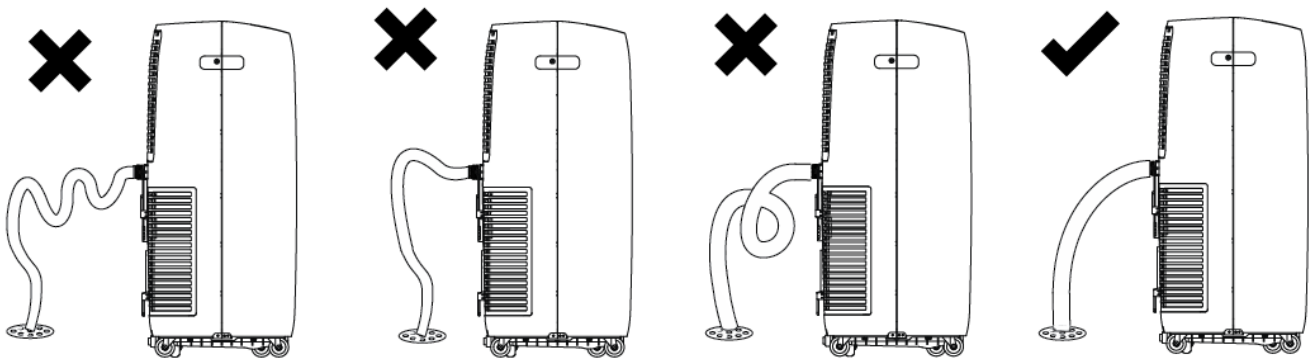

Fig 16.1
5. Make sure that there are no kinks or knots in the *Garden Hose* (Fig 16.1).